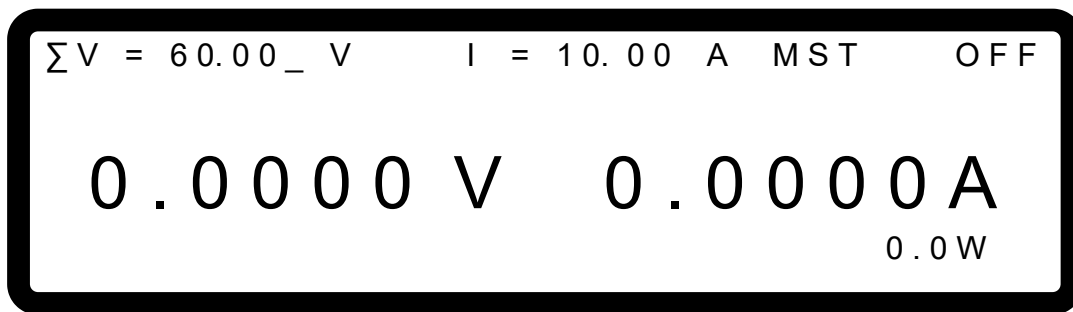

Figure 3-42
MAIN PAGE is mainly used to set voltage (V) and current (I). The difference between single unit and series operation is that the voltage set will increase following the number connected in series. The voltage set is indicated by ΣV for easy identification. When set to MASTER, MST will appear at the window's upper right corner as Figure 3-42 shows below.